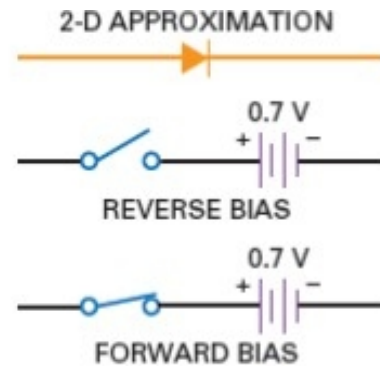

Figure-22 Equivalent circuit for second approximation
- Figure-22 shows the equivalent circuit for the second approximation of a silicon diode. We think of the diode as a switch in series with a barrier potential of 0.7 V. If the Thevenin voltage facing the diode is greater than 0.7 V, the switch will close. When conducting, then the diode voltage is 0.7 V for any forward current.